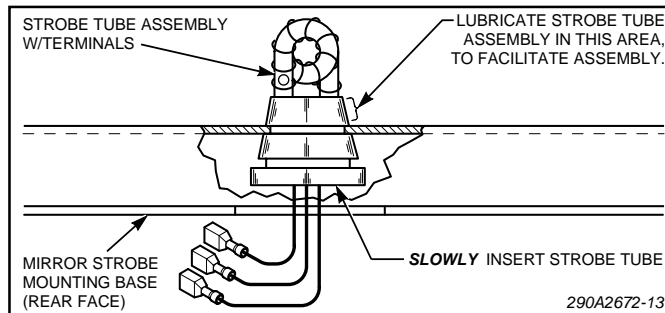

Figure 5.
e. See figure 5. SLOWLY insert the new strobe tube in the mounting bar until it is properly